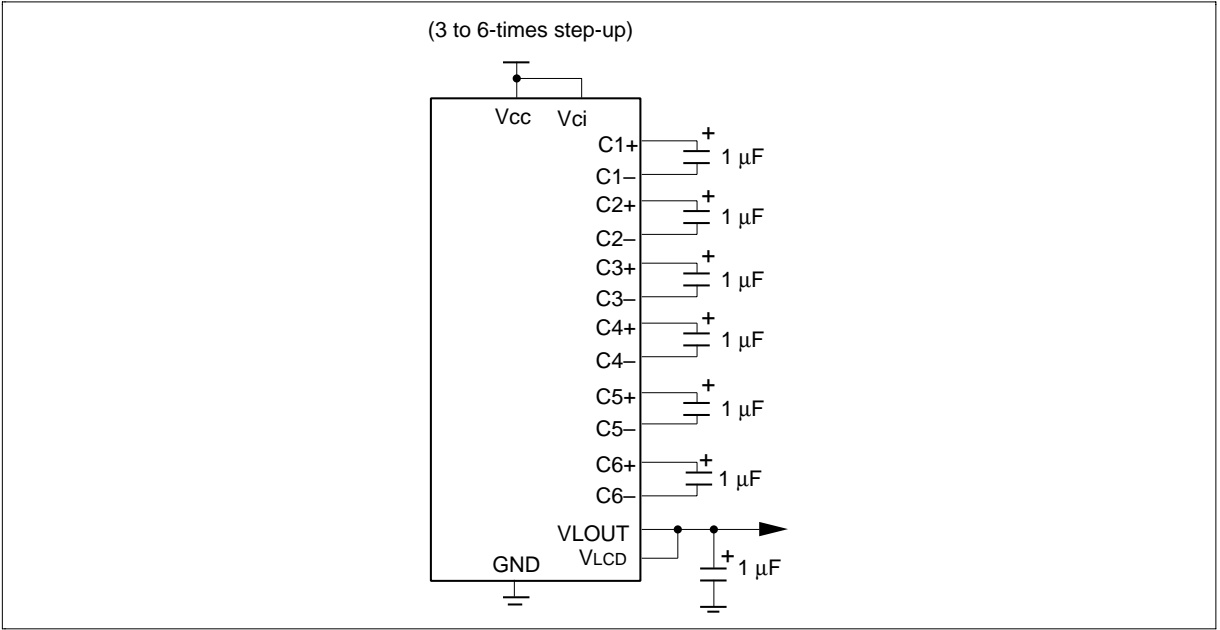

Figure 64 Step-up Characteristics Test Circuit
11. The step-up characteristics test circuit is shown in figure 64.